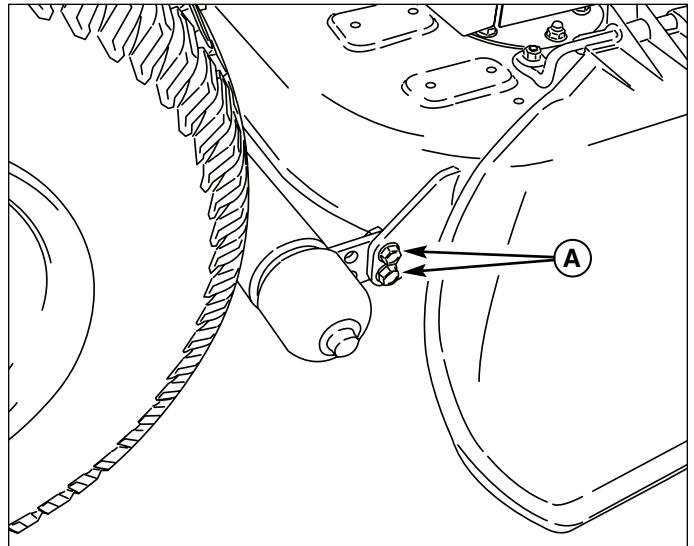

Figure 20. Roller Bar Leveling
5. Locate the roller bar leveling hardware on the right side of the mower deck (A, Figure 20). Loosen the hardware and raise or lower the roller bar until the correct level is achieved, then tighten the hardware. Repeat steps 4 & 5 if necessary.